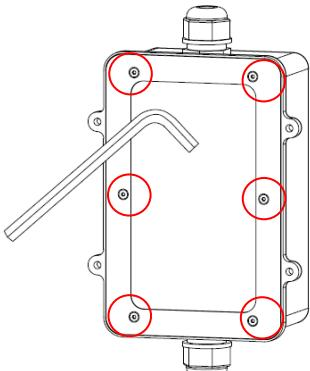

Fig. 3
- 1) As shown in Fig 3, remove the rear cover panel by removing the 6 bolts with a 2.5# hex key.